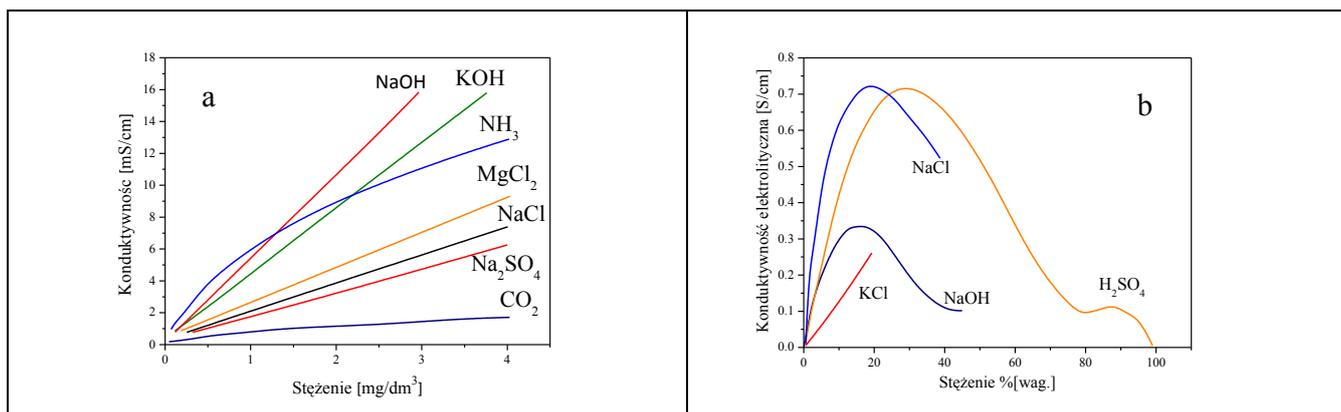

Fig. 1. The dependence of conductivity on the concentration of electrolytes in aqueous solutions (a) dilute, (b) concentrated.
- concentration of the electrolyte - in solution of low concentration the increase of conductivity is the result of the increase in ion concentration. In electrolyte solution of high concentration the conductivity initially increases with increasing concentration and then decreases (Fig. 1),